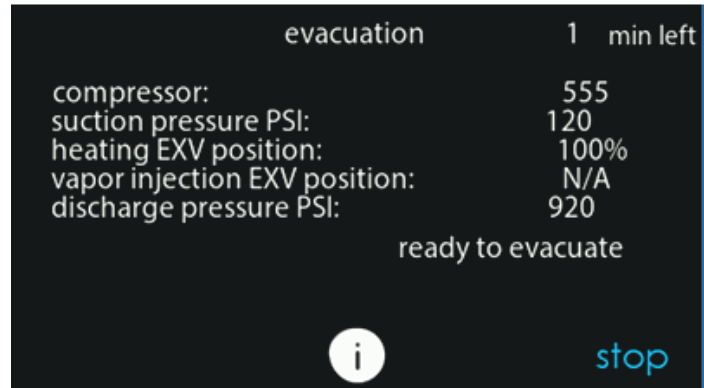

Fig. 44 – Evacuation Status Screen
5. Begin evacuation or refrigerant recovery as required for the procedure after Infinity® System Control indicates the EXV is open. Power may be removed from heat pump after the Infinity® System Control indicates “READY TO EVACUATE.” See Fig. 44.